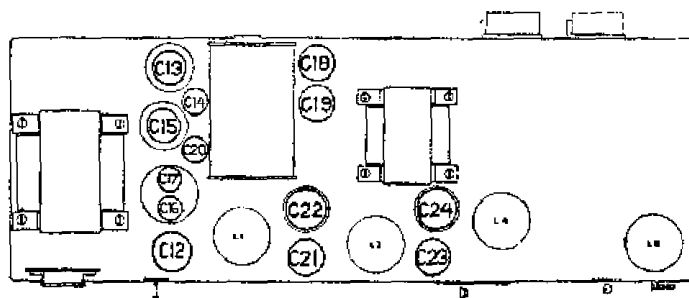

Fig. 6.
11. Trim C24, C21, C24, in that order, for maximum output (see Fig. 6).
7. Trim for maximum output in the following order: C16, C15, C13, C15, C16 (see Fig. 6).
4. Trim S6 (or C12) for **MINIMUM** output (Fig. 6).